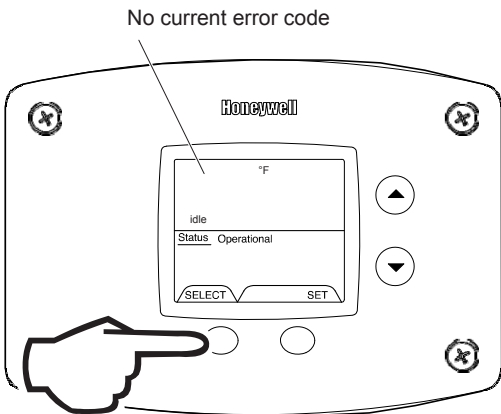

Fig. 64
1. In 'Service Mode' press the 'Select' button until the next display after the 'Software Version'. If there are no current error codes, the display will show -- (Fig. 64).